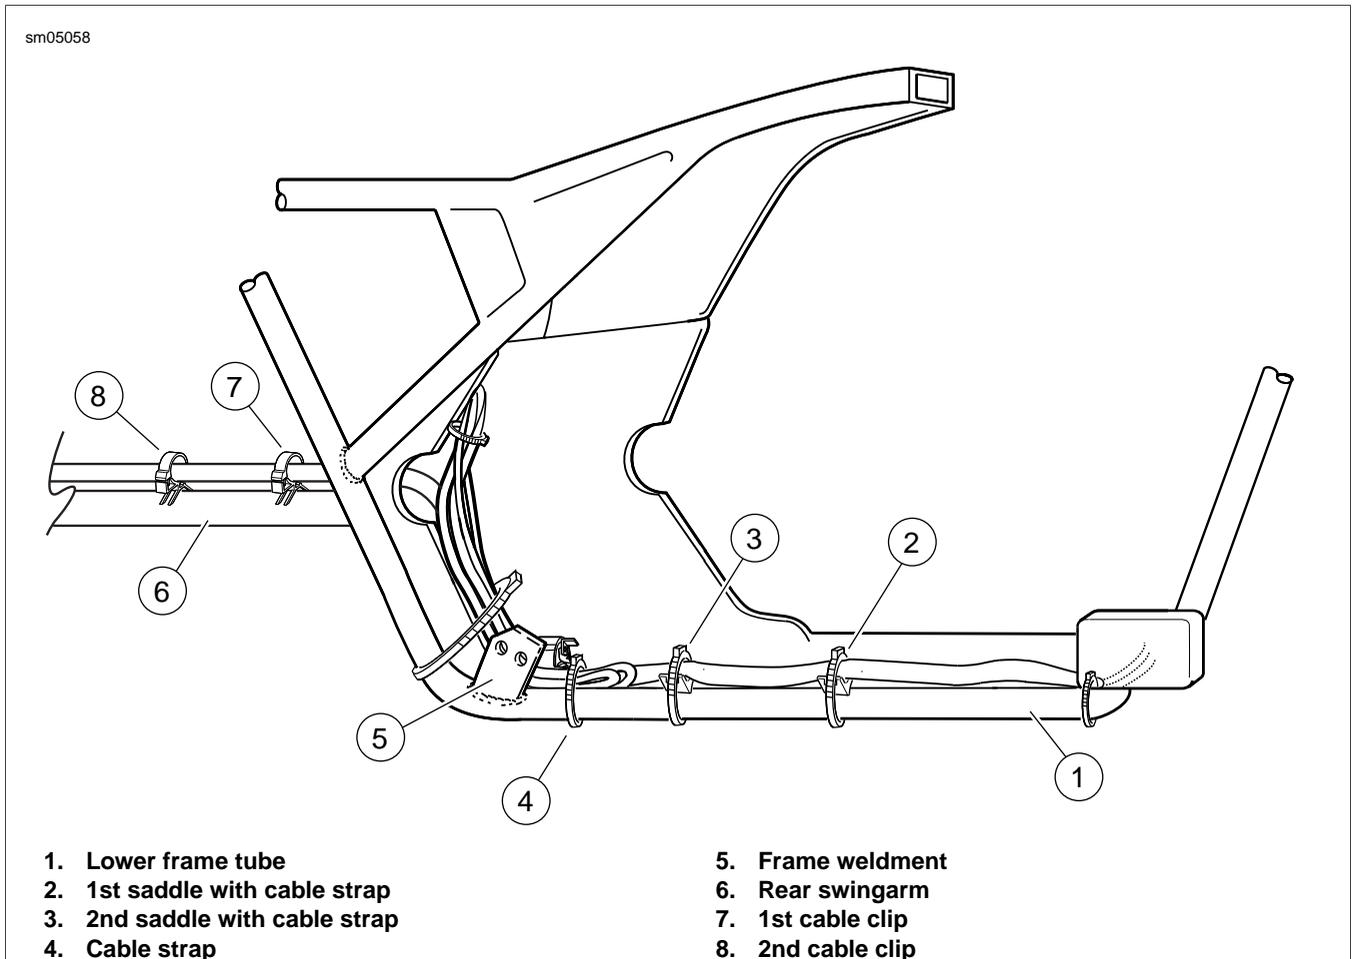

Figure 2-51. Rear Brake Line Routing (Right Side View)
3. Capture rear brake line hose in two cable clips on rear swingarm T-studs. Snap cable clips closed. See Figure 2-51.